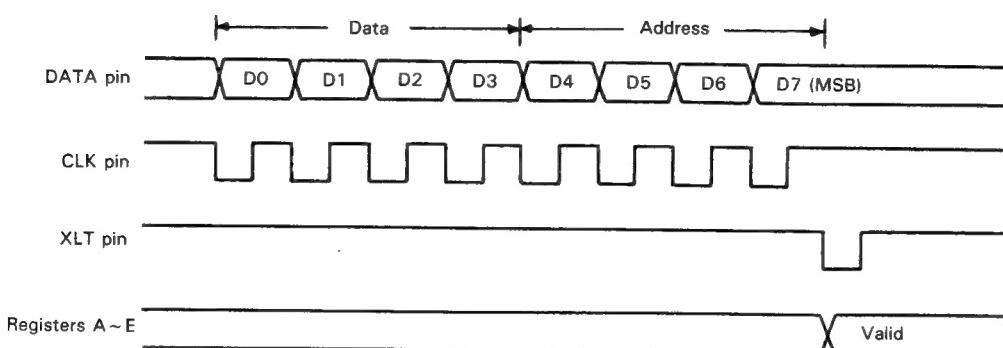
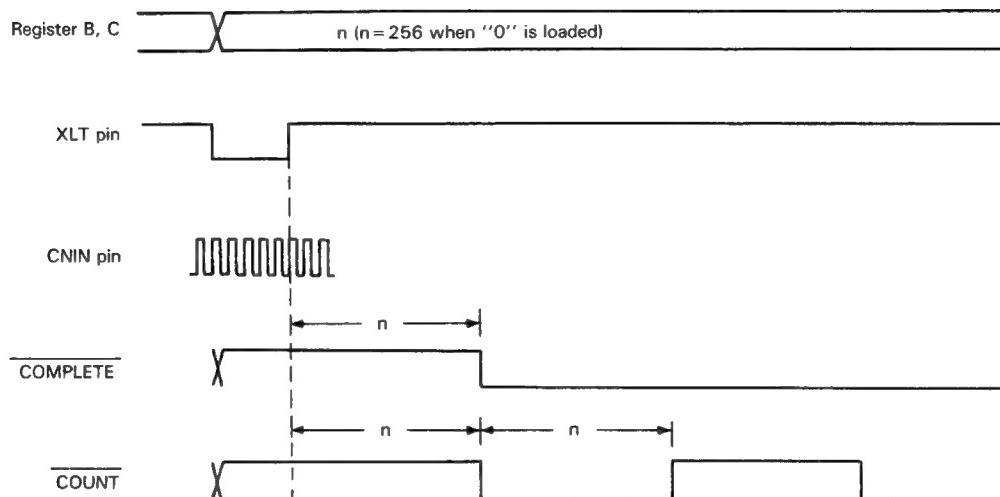

Fig. 1 Timing chart for data input
Fig. 2 Tracking counter timing chart
Each register may be set by input of 4-bit address, and 4-bit data from LSB in the timing that is shown in Fig. 1 to three pins, XLT, CLK and DATA. The address and data of each pin
The tracking counter timing chart is shown in Fig. 2.
- (1) COMPLETE : Address (see note) is "B"; Shown in Fig. 2.
- (2) COUNT : Address (see note) is "C"; Shown in Fig. 2.
(3) PW  $\geq 64$  : Address (see note) is "E"; This signal is of LOW level when the pulse width after bottom hold is over 63, and is of HIGH level otherwise. It is used for detection of a drop in the speed of the spindle motor after braking and so on.
**Note:** Address setting is determined by the data corresponding to D4 to D7, which are input from the DATA pins shown in Fig. 1.